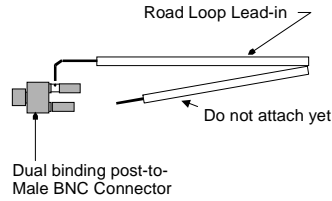

Figure 28 Attaching Road Loop wire to the post-to-BNC connector
Step 5: Insert the end of the Road Loop wire at the Activator into one side of a binding post-to-BNC connector (Figure 28). Tighten the binding post terminal to secure the lead.